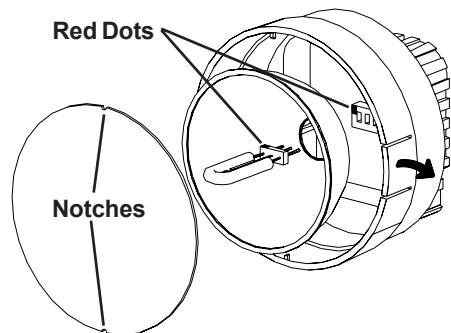

Figure 4 Lamp Replacement
4. Reinstall the reflector and then position the front lens in place matching up the notches on the lens with the two small tabs on the housing to prevent lens rotation (see Figure 4). Push the tabs on the front rim outward and press the lens into place.
3. The lamps are polarized and must be put into the socket matching polarity. Using a lint free cloth, match up the red dot on the plug with the red dot on the socket and gently rock the lamp while pushing it into place (see Figure 4). Make sure the lamp is in straight and centered in the reflector hole.